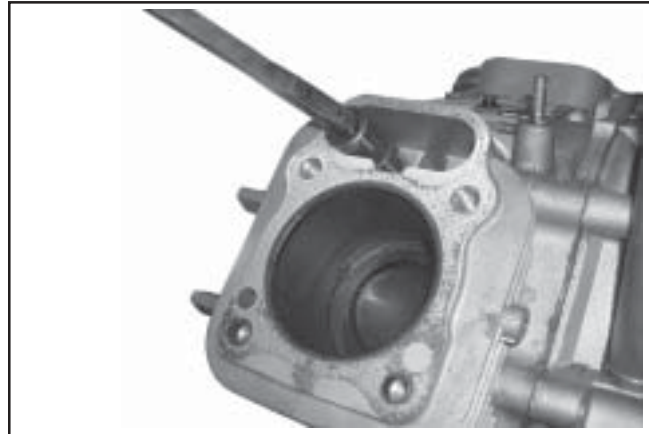

Figure 9-53. Removing Hydraulic Lifter.
4. Remove the lifters from the lifter bores. Use a Hydraulic Lifter Tool. Do not use a magnet to remove lifters. Mark the lifters by location, as either intake or exhaust and cylinder 1 or 2. Hydraulic lifters should always be reinstalled in the same position. See Figures 9-53 and 9-54.